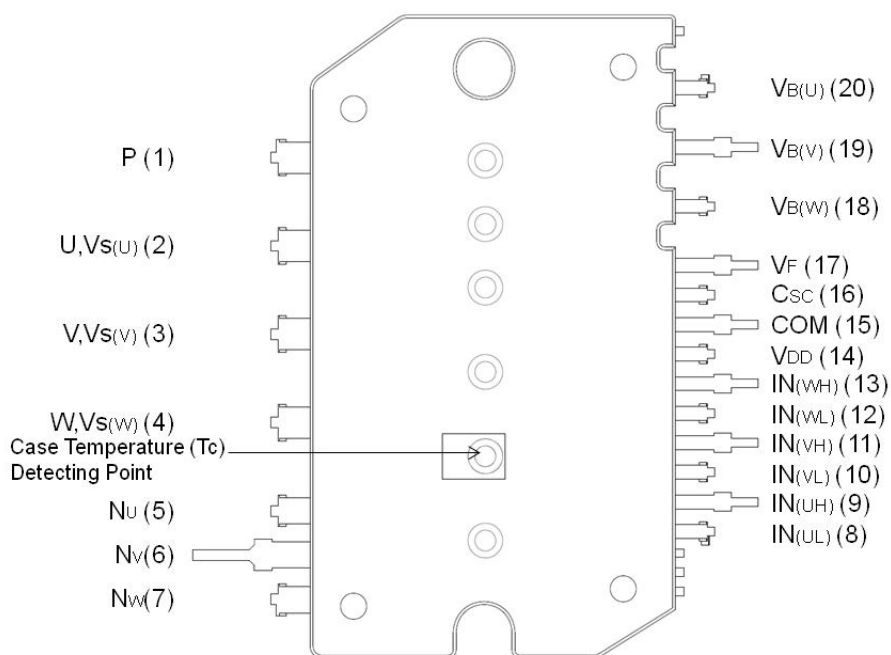

Figure 2. Top View
6. For the measurement point of case temperature (T_C), please refer to Figure 2.